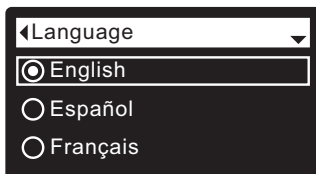

FIG. 57
5. Press the SELECT (O) button to display the Language menu (See Figure 57).
6. If the desired language already has a dot next to it (See Figure 57), go to Step 7. Otherwise, press the DOWN (▼) or UP (▲) buttons to scroll to the desired language, then press SELECT (O) to choose it. The choices are: English, Spanish, French, Italian, German, Dutch, Polish, Russian, Hungarian, Turkish, Lithuanian, Greek, Romanian, Czech, Slovak, Bulgarian, Serbian or Croatian.